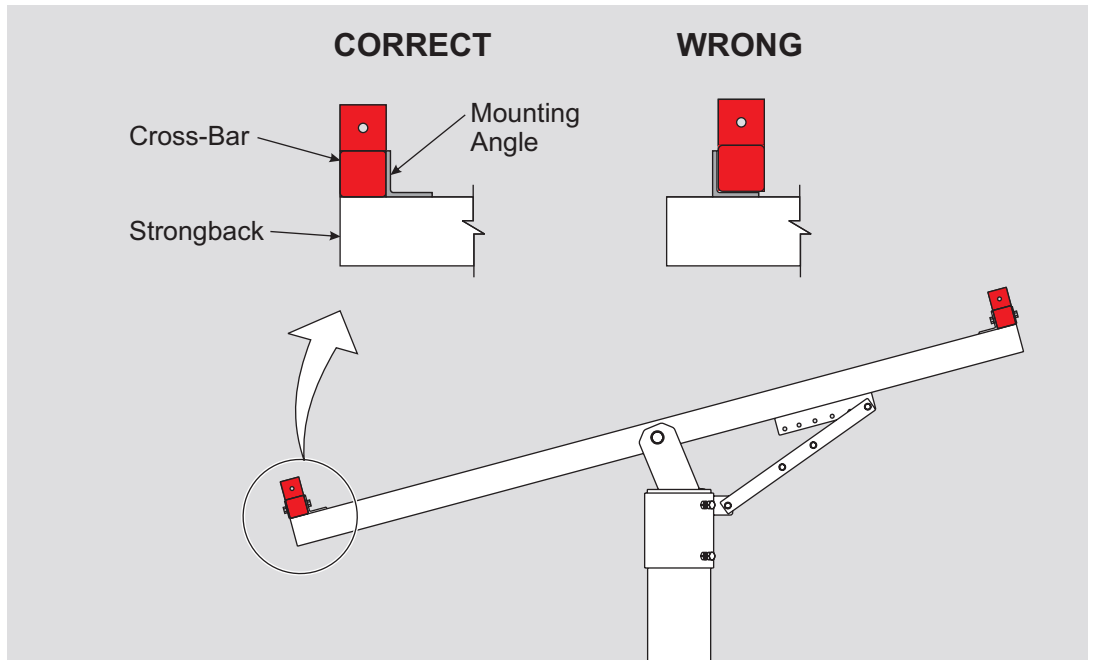
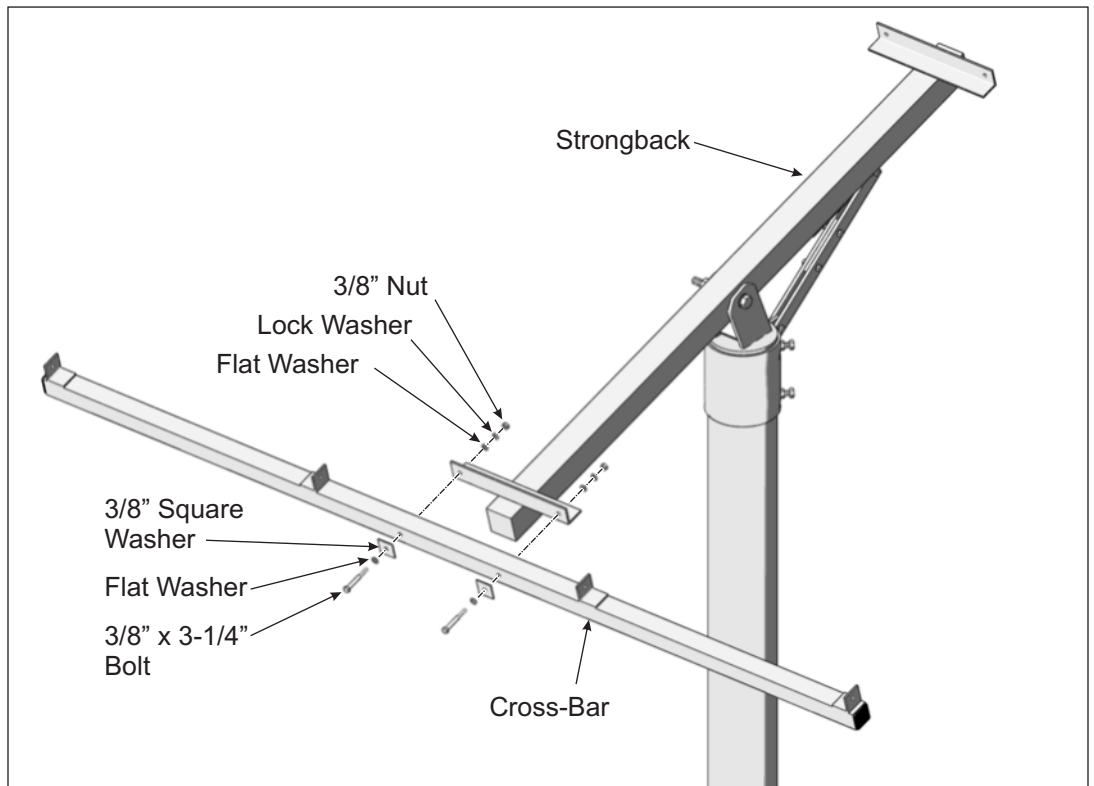

Figure 3-1: Cross-Bar Positioning relative to Mounting Angles
Figure 3-2: Installing Cross-Bars on the Strongback
Cross-Bars are mounted to the outside of the Strongback mounting angles (these are welded to the Strongback); they are not nested into the Mounting Angles. (See Figure 3-1)
- A. Position the Cross-Bar to the outside of the Strongback mounting angle (see Figure 3-1). Align the mounting holes and secure using 3/8" flat and square washers along with the 3/8" x 3-1/4" bolts and lock washer placing the square flat washer against the Cross-Bar. Tighten hardware and **Torque to 30-32 ft.-lbs.** (See Figure 3-2)
- B. Continue in this manner and install the opposite Cross-Bar to the Strongback. Refer to Figure 3-1 as needed for proper positioning.